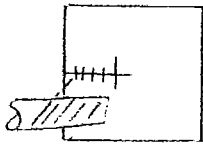

FIG 4
g) Place the toolrest as close as possible to the face of the board. It is critical that the toolrest be parallel to the board and that one of the 45-degree lines on the toolrest points at the OUTERMOST layout line. SEE FIG 4